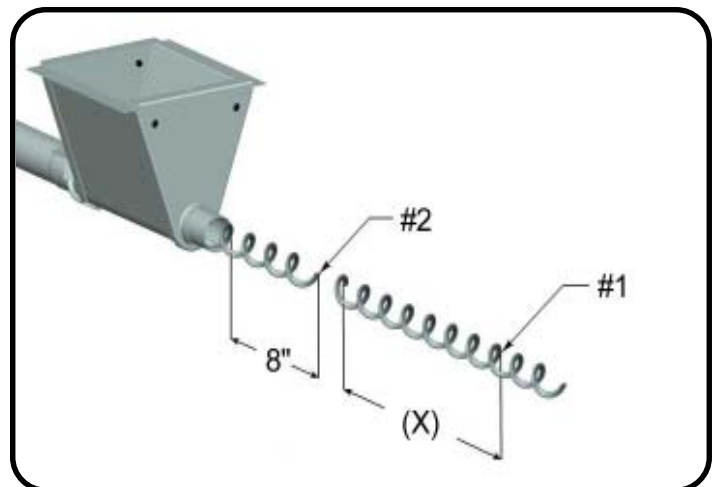

Figure 4
6. Refer to Figure 4. The amount of stretch required (X) is calculated as 7.5 inches per 100 feet of auger (19cm per 30m). Pull the auger from the boot end of the feed line until all of the slack is removed. Mark the auger at the edge of the boot inlet tube (#1). Pull the auger out the required distance (X) and mark it at the edge of the boot inlet tube (#2). Pull the auger out an additional 8 inches (20.3cm) and secure tightly with locking pliers. The pliers will be pulled into the boot and hold the auger at that point. Cut the auger at mark #2.